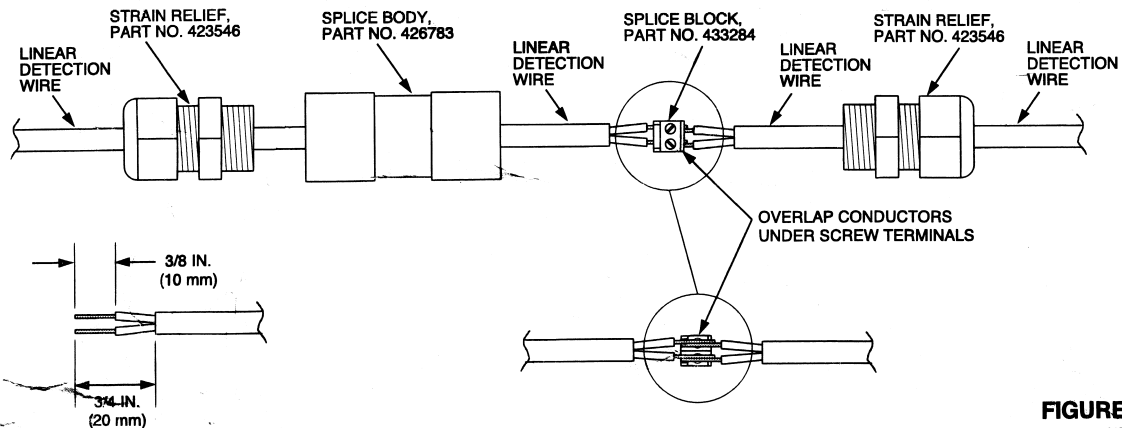

FIGURE 1
To properly make a detection circuit splice, the following steps should be completed (see Figure 1):
4. Loosen the compression nut of the strain relief assembly and slide the assembly over the end of the wire as shown in Figure 1. On the same wire end, slide the splice body onto the wire.